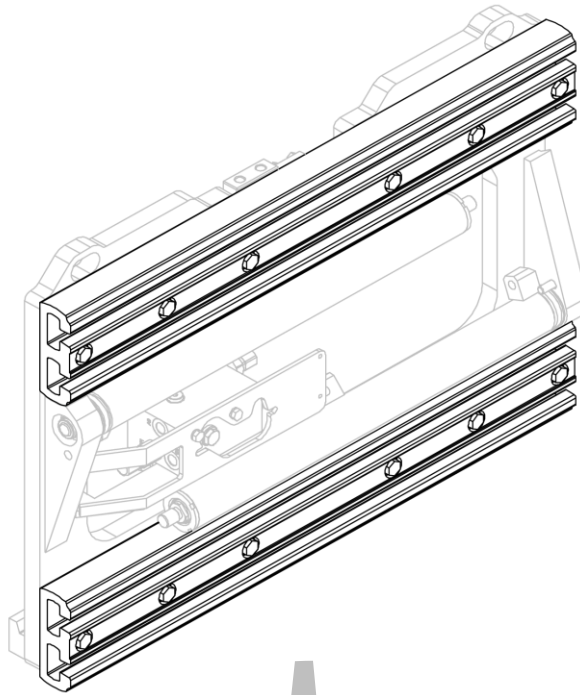
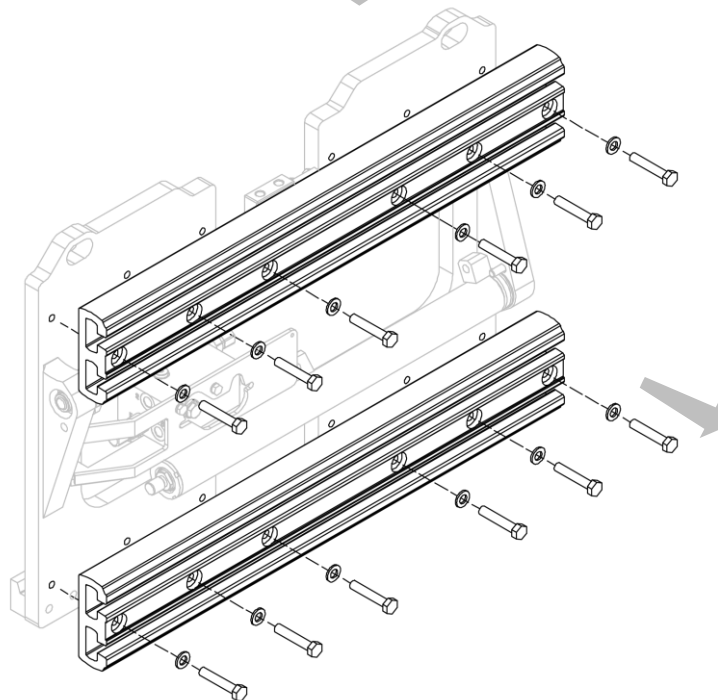

Figure 56
Figure 57
2. Remove the aluminium profiles, one at a time, after unscrewing the bolts (see *Figure 56* and *Figure 57*).